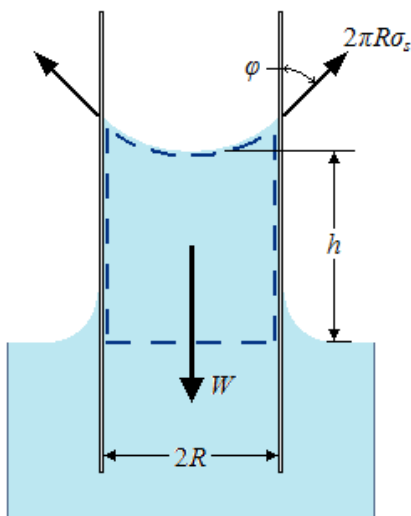

Figure-1
5. A 0.6-mm-diameter glass tube is inserted into water at 20°C in a cup as shown in Figure-1. Determine the capillary rise of water in the tube. Take surface tension of water at 20°C is 0.073 N/m.